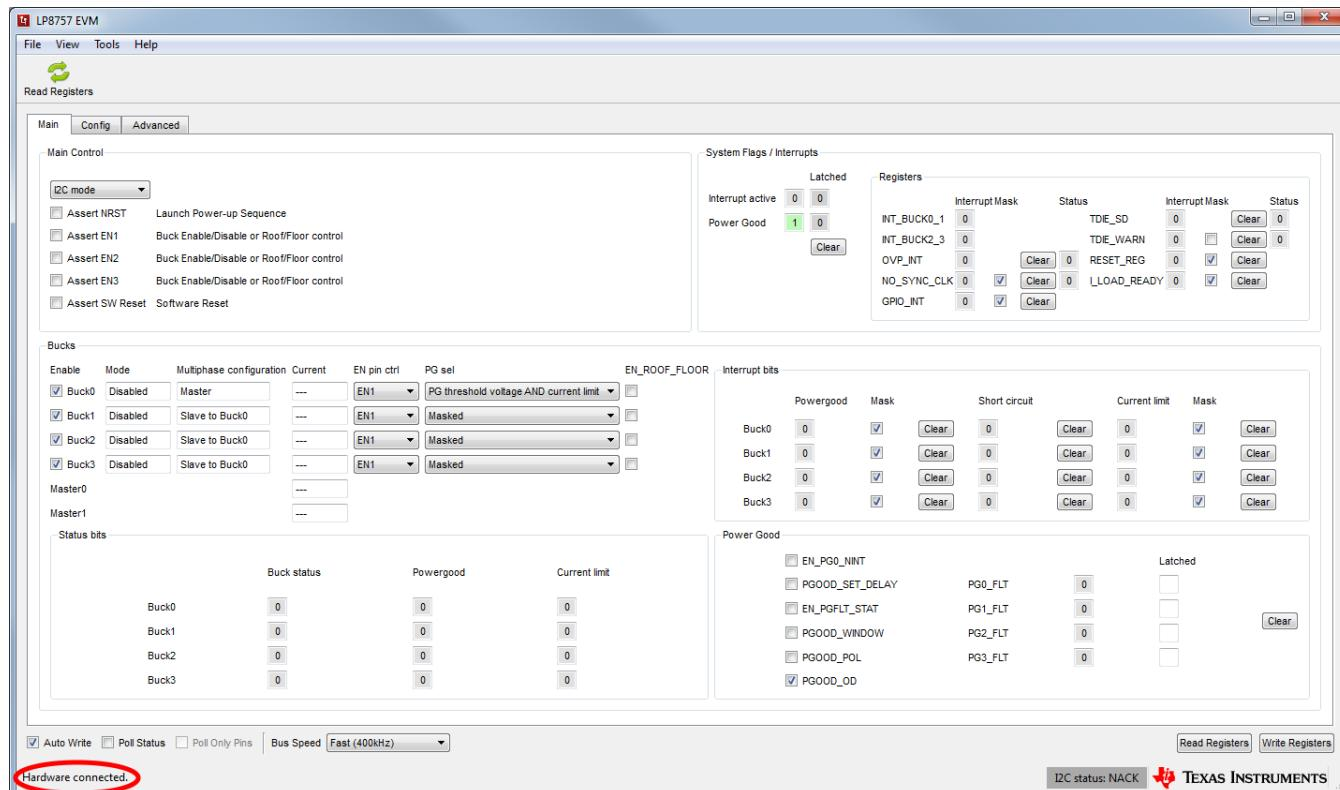

Figure 6. Evaluation Software Graphical User Interface (GUI) When Board Connected
2. On the Evaluation SW window bottom right corner you should see text "Hardware connected.". Refer to Figure 6.